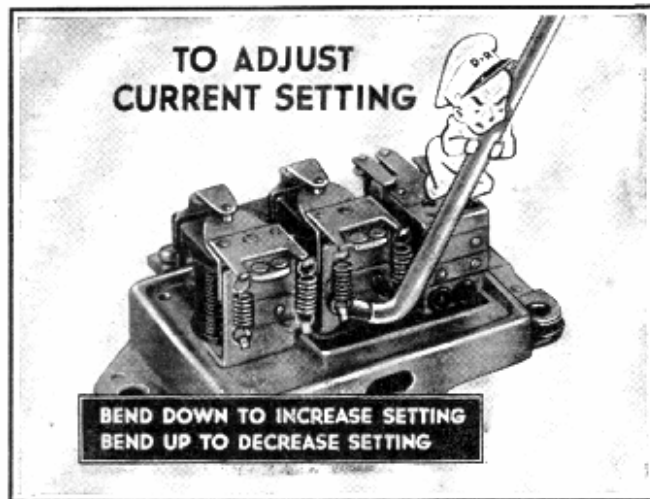

Fig. 26—Adjusting Current Setting
1. Current setting of the regulator is adjusted by bending the spiral spring hanger down to increase the current setting, or bending up on the spring hanger to decrease spring tension and lower current setting. (Figure 26.) Nor-